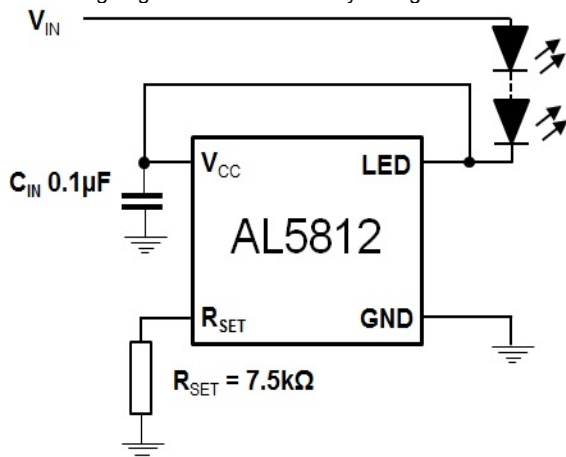
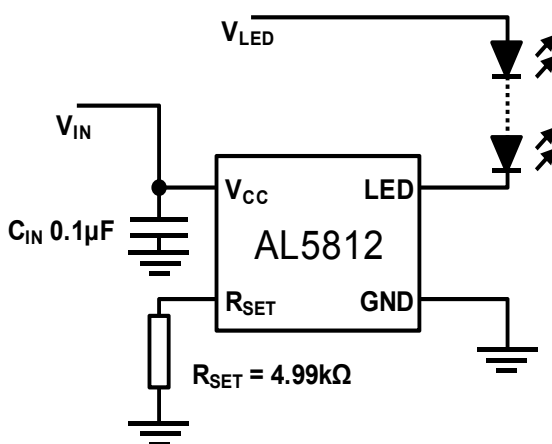
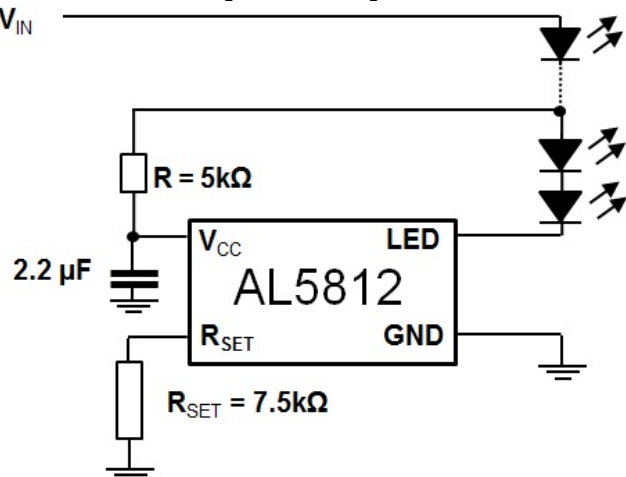
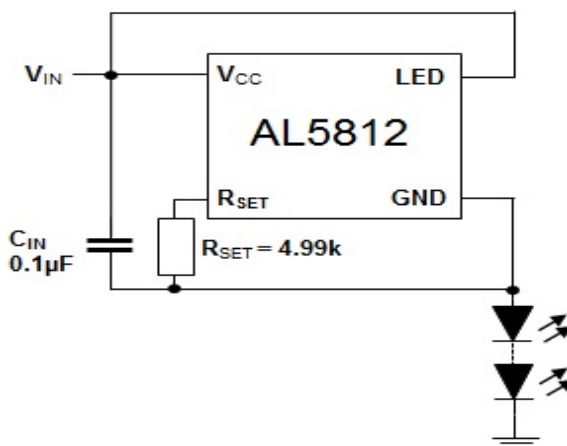

Figure 13 Low Side Current LED Setting
Figure 14 Low Side Drive – Separate Supplies
Figure 15 Low Side LED String Tapping
Figure 16 High Side Current LED String
13. The AL5812 has its V_{CC} pin connected to its LED pin, which are connected to the positive input supply voltage. R_{SET} is connected to AL5812 GND pin, which is connected to the anode of the LED chain. This creates a high side driver of the LED chain. See Figure 15.
The AL5812 is a Linear LED driver and in normal operation has the LEDs connected to the same potential as its V_{CC} pin and regulates the LED current by sinking current into its LED pin see Figure 13.
The AL5812 with its 60V capability on its supply pin, V_{CC} , and its LED drive pin allows it to operate from supply rails up to 60V and/or directly drive LED chains up to 60V as shown in Figures 13 and 14. The voltage applied to the V_{CC} pin can be greater or lower than the voltage applied to the LED string. Figure 14 shows where you might control it from a 5-V rail but power the rails from a 12V rail.
An extension of Figure 14 is to derive the power for the AL5812 from the LED chain itself see Figure 15. LED chains greater than 60V can be driven in this manner as long as PWM dimming is not utilized.
Figure 15 shows the use of RC delay to match the power time delay between Vcc and LED pin. The AL5812 can also be used on the high side of the LEDs, see Figure 16. This is a simple way of extending the maximum LED chain voltage, however, it does increase the minimum system input voltage to: